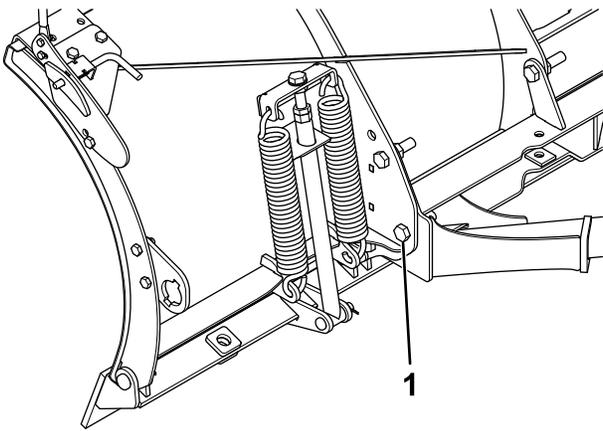

Figure 6
10. Remove the bolt and locknut securing the pushbeam assembly shown in Figure 6. Discard the bolt but retain the locknut.